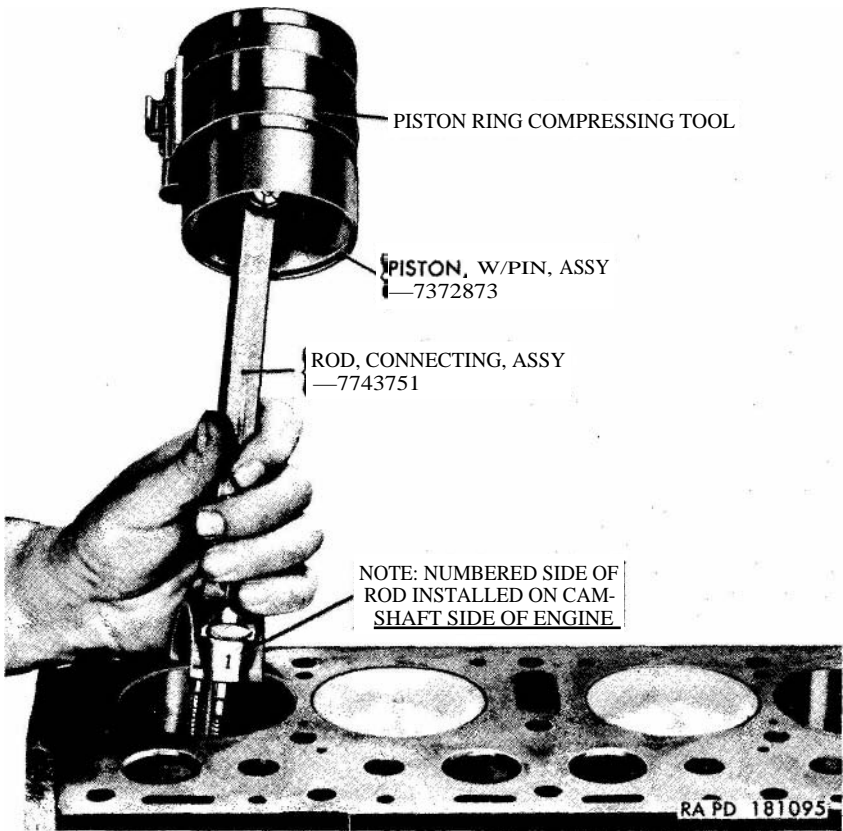

Figure 84. Installing pistons and connecting rods.
c. Turn the crankshaft so that the crankpin of the piston about to be installed is at bottom center. Matching the piston and connecting rod to the cylinder bore to which it was fitted (par. 60b (5)), start the piston *into* the top of the cylinder block (*fig. 84*) so that the narrow side of the connecting rod offset is adjacent to the nearest main bearing (*fig. 46*). When correctly positioned, the side of the
connecting rod stamped with the cylinder identifying number is on the camshaft side of the engine (*fig. 84*). Use the handle end of a hammer to tap the piston through the ring compressing tool and down two or three inches into the cylinder.